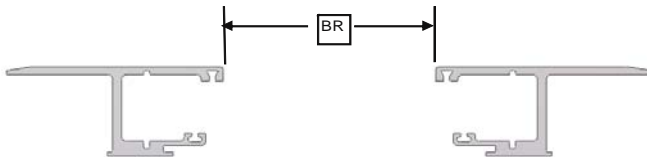

FIG. 5B-1
Secure the rails to the truck bed by installing two clamp assemblies per rail. Slide the Clamp Grip onto the Rail at the Clamp Relief and then slide it towards the Rail Bracket and Shim (Fig 5B-5 and 5B-6). Then assemble the rest of the clamp parts as shown below (Fig 5B-3 and 5B-4). Be sure to use the long grip at the canister end (Fig 5B-4) of the rails and the short grip at the tailgate end (Fig 5B-3).
Finally, check for proper spacing by measuring between the rails at the canister and the tailgate end of the rails (Fig 5B-1). The measurements should be equal to or less than those in Fig 5B-2. The Rail Brackets and Shims have been pre-installed to achieve the proper Between the Rail dimension (BR) when placed on an average factory truck bed. However, not all truck beds are average dimensionally and some have optional plastic caps or over the rail spray-in liners.